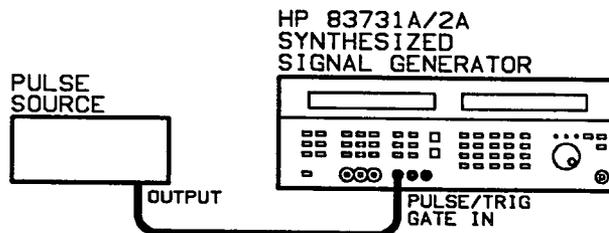

Figure 3-7. Doublet Pulse Equipment Setup
1. Connect the equipment as shown in Figure 3-7:
To program the Synthesizer to generate the pulses explained above, connect the equipment as shown in Figure 3-7, set the gate signal source for the desired gate pulse characteristics, and then run the following program.